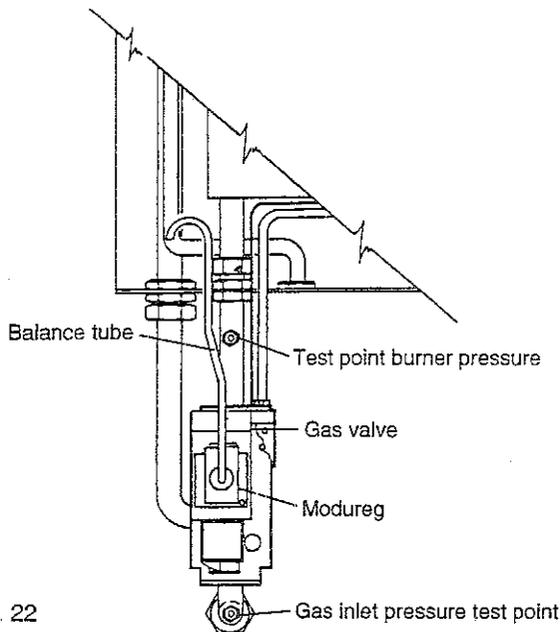

Fig. 22
- Loosen the screw in the burner pressure test point (fig. 22) and attach a gauge.
- e. Disconnect one of the wires from the «Modureg» (fig. 22), this will reduce the burner to minimum which should read 2.5 mbar \pm 0.5 mbar. If the burner pressure is not as stated check the inlet working pressure (fig. 22) which should be minimum 20 mbar. If that is correct, consult Ferrolì. No attempt should be made to alter D.H.W. burner pressure.